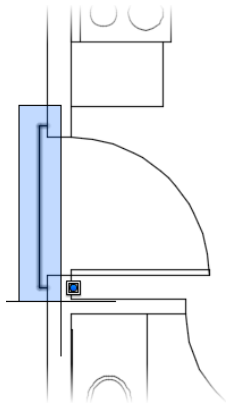

FIGURE 6.20: Selecting the threshold with a regular selection window
- 7.** Start a selection window slightly above and to the left of the threshold, and drag down and to the right, as shown in Figure 6.20. Be sure to enclose the horizontal threshold lines completely.